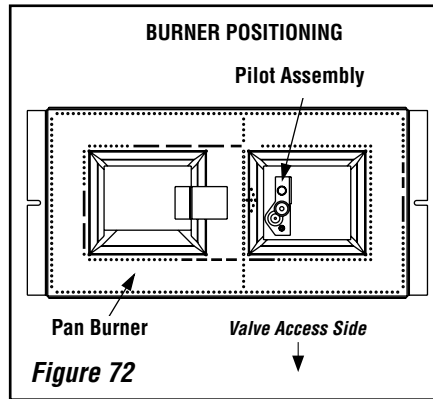

Figure 72
b. Install the burner as shown in *Figure 72*.